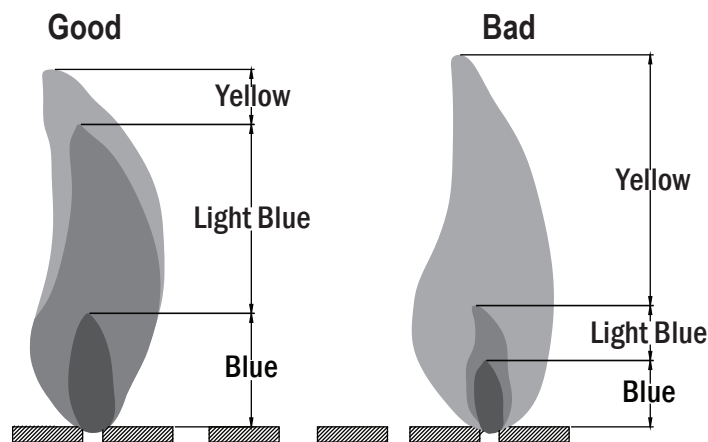

Figure 13
**Observe Flame Height When Lit:** The burner will display blue and yellow flames. These flames should be a blue / yellow color between 1~2 in. height (see Figure 13). These flames should not be yellow or produce thick smoke. This would indicate an obstruction of airflow through the burners. The flames should be blue with straight yellow tops.